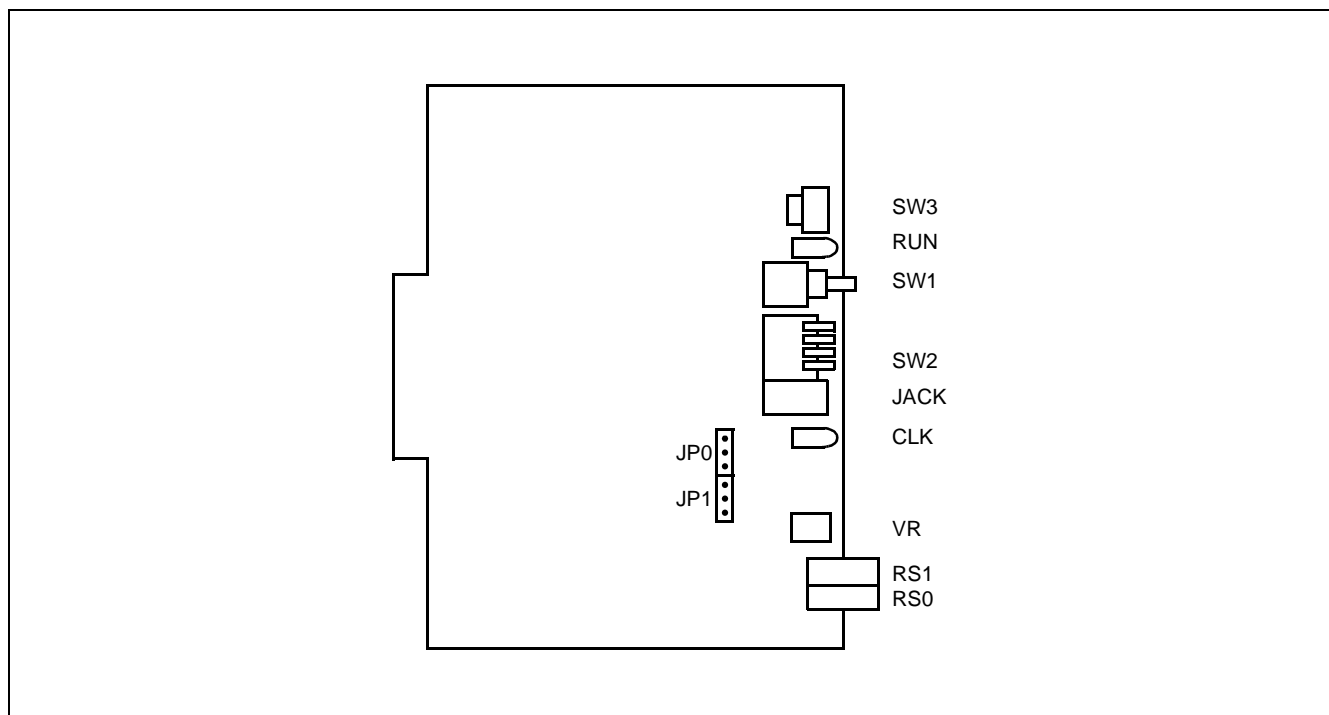

Figure 008-1 PN-CP03 (MP) Card
(1) Locations of Lamps, Switches, and Connectors (see Figure 008-1)